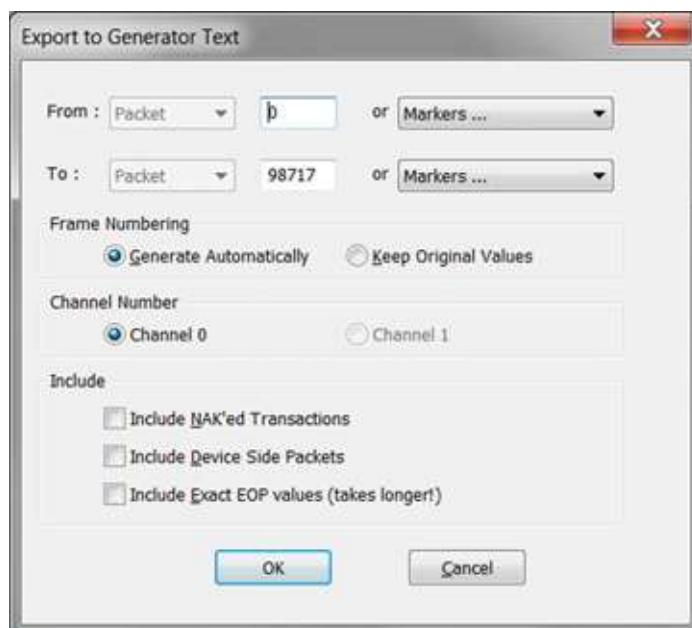

Figure 11.11: Export to Generator Text Window
4. Select **Packets to Host Traffic Generator Text File** from the **Export** drop-down menu. You see the **Export to Generator Text** dialog (Figure 11.11 on page 649).